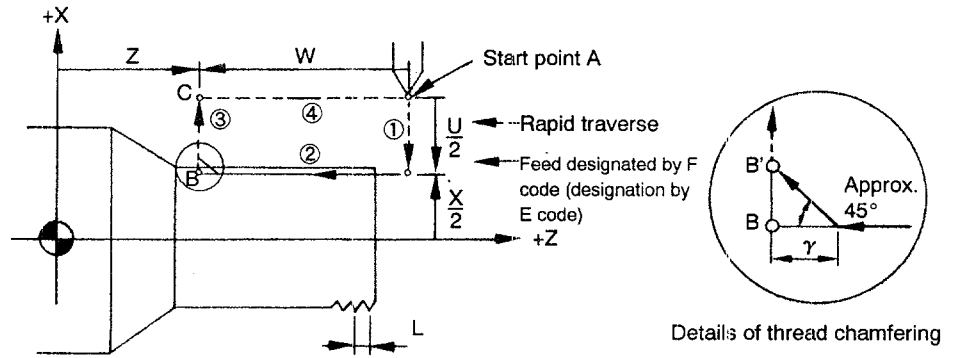

Fig. 4.5 Straight Thread Cutting Cycle
With the commands indicated above, straight thread cutting cycle ① to ④, shown in Fig. 4.5, is executed.